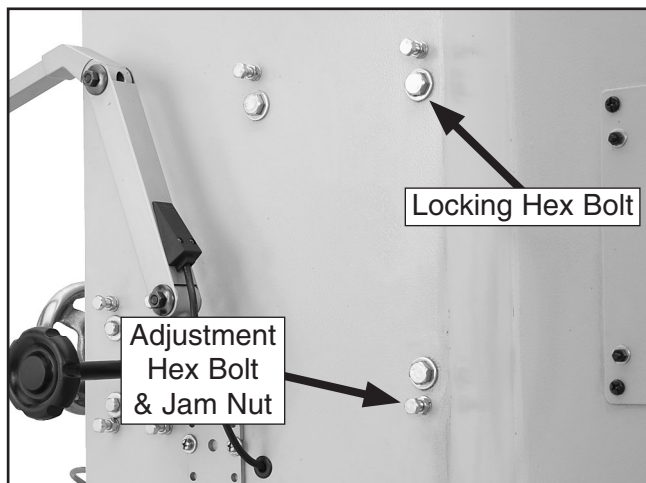

Figure 47. Upper wheel adjusting fasteners.
The upper wheel adjusting fasteners consist of four locking hex bolts and four adjusting hex bolts with jam nuts (see **Figure 47**).
1. Loosen the upper wheel locking hex bolts, then loosen the jam nuts (see **Figure 47**).